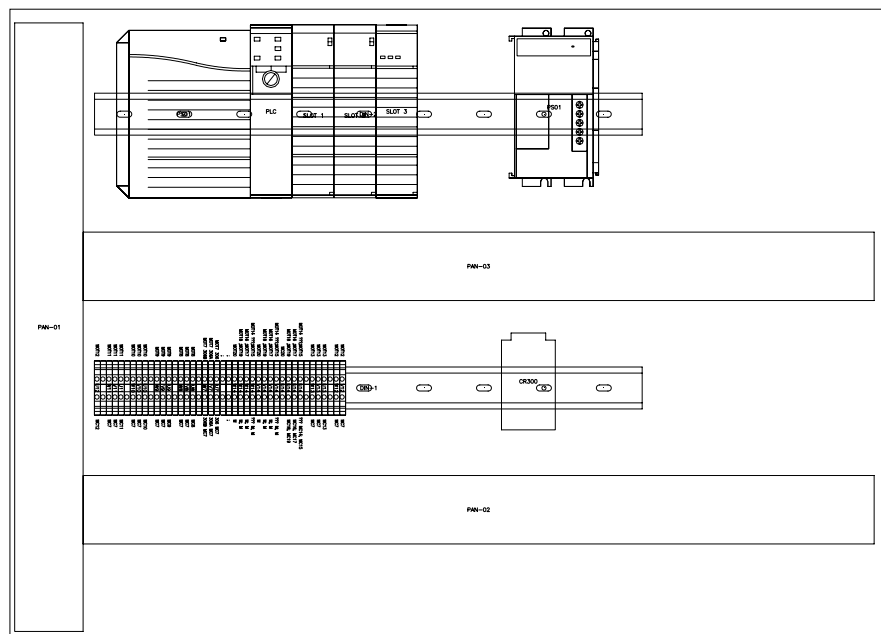

Figure P2-15 Terminal strip inserted in the drawing
9. Choose the **Insert** button. Next, enter **11.25,9** at the Command prompt and press ENTER; the **Terminal Strip Editor** dialog box is displayed again. Choose the **OK** button in this dialog box; the **Terminal Strip Selection** dialog box is displayed. Choose the **Done** button in this dialog box; the terminal strip is inserted in the drawing, as shown in Figure P2-15.